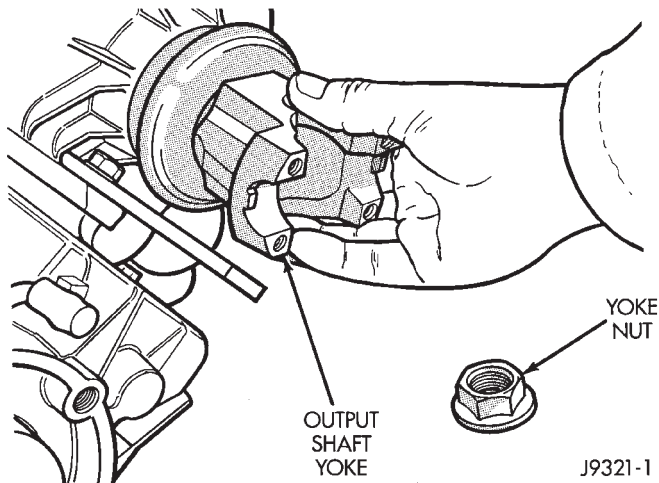

Fig. 1 Removing Front Output Shaft Yoke
- (1) Position transfer case on shallow drain pan. Remove drain plug and drain lubricant.
- (2) Remove front yoke nut and remove yoke (Fig. 1).